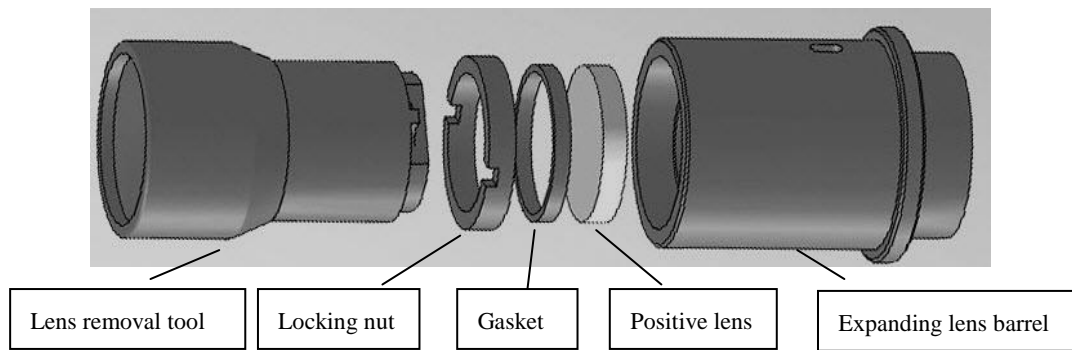

Fig.18-1
4. Unscrew the beam expanding lens barrel from the water-cooled module, and then respectively the positive lens (large, plane-convex lens) and negative lens (small, plane-concave lens) of beam expanding lens with lens removing tool and beam expansion removing tool, which is as shown in Fig.18-1 and 18-2.